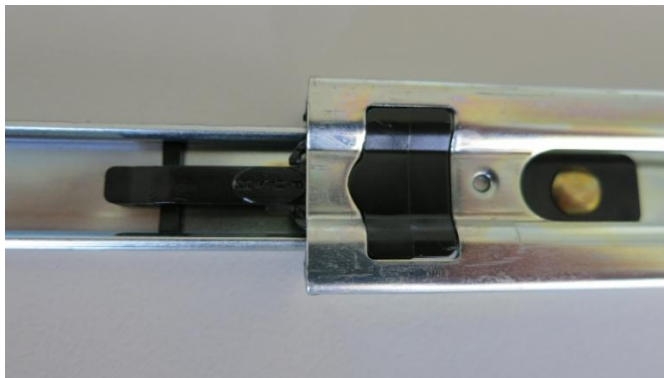

Figure 135 – Separate Rack Slides
2. Separate the slide rail assembly by pressing the black plastic clips in the slide rails to remove the inner section of the rail (refer to Figure 135).